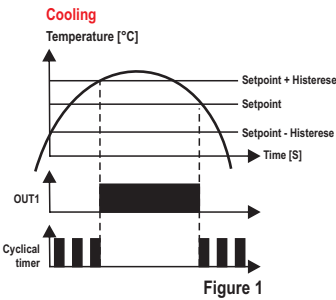

Figure 1
- **Timer triggered by SP1 (F22=1):** the timer is triggered whenever the temperature reaches the value configured for SP1. The timer switches off when the temperature reaches SP1 + F06 (if **stage 1** is configured as refrigeration) or SP1 - F06 (if **stage 1** is configured as heating), as shown in Figure 1.
- **Stage 1 linked to the cyclical timer (timer switches on upon power up) (F22=2):** in this configuration, the timer cycles according to the times configured in F20  $([C0N])$  and F21  $([OFF])$ . The **Stage 1** starts to cycle when the temperature reaches SP1 + F06 (if **stage 1** is configured as refrigeration) or SP1 - F06 (if **stage 1** is configured as heating), as shown in Figure 1.